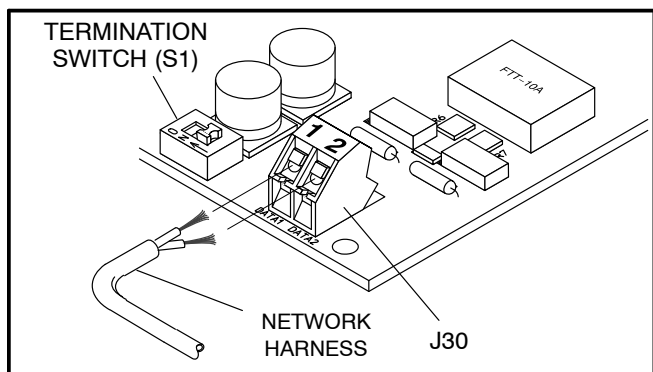

FIGURE 10-3. NETWORK HARNESS CONNECTION
10. Attach one end of the network harness to the Data 1 and Data 2 terminals of the two-position terminal block (J30), (polarity insensitive, see Figure 10-3).